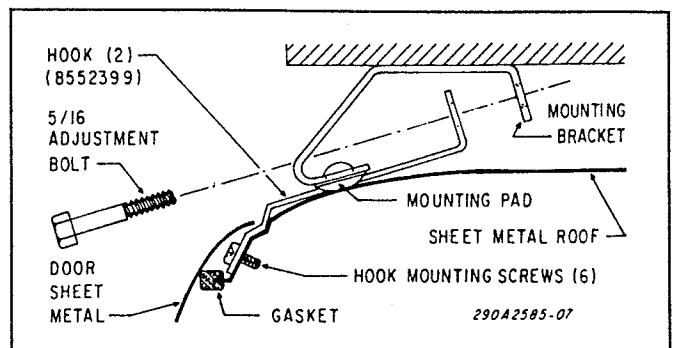

Figure 1.
4. Drill three (3) .147" diameter holes (#26 drill bit) at the drill position marks.
5. See figure 1. Secure the hook using three #10 thread-forming sheet metal screws. Assemble the hook on the mounting bracket using the appropriate 5/16-18 hex head bolt (finger-tight only).